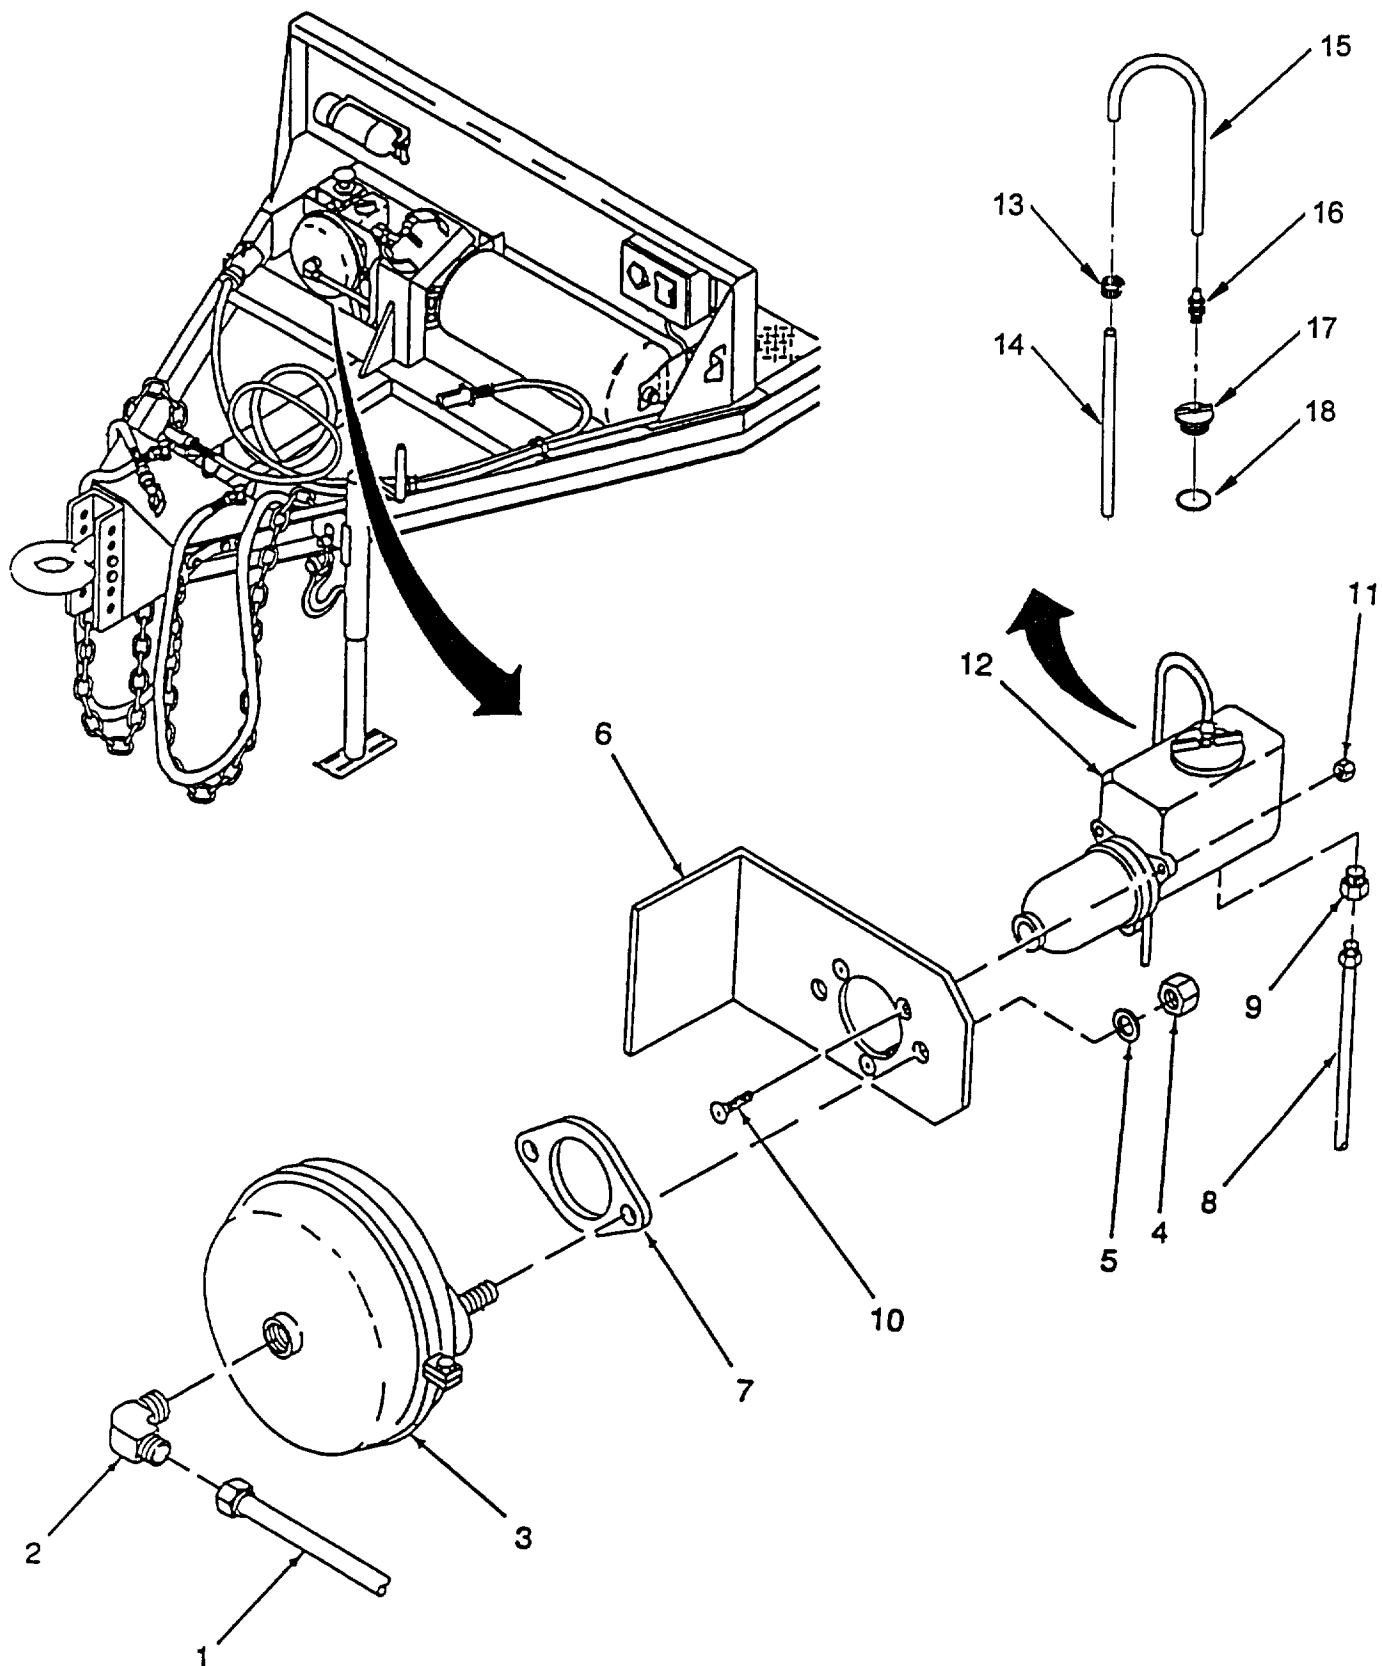

Figure 4-55. Power Cluster and Master Cylinder
a. Removal. (Refer to Figure 4-55).